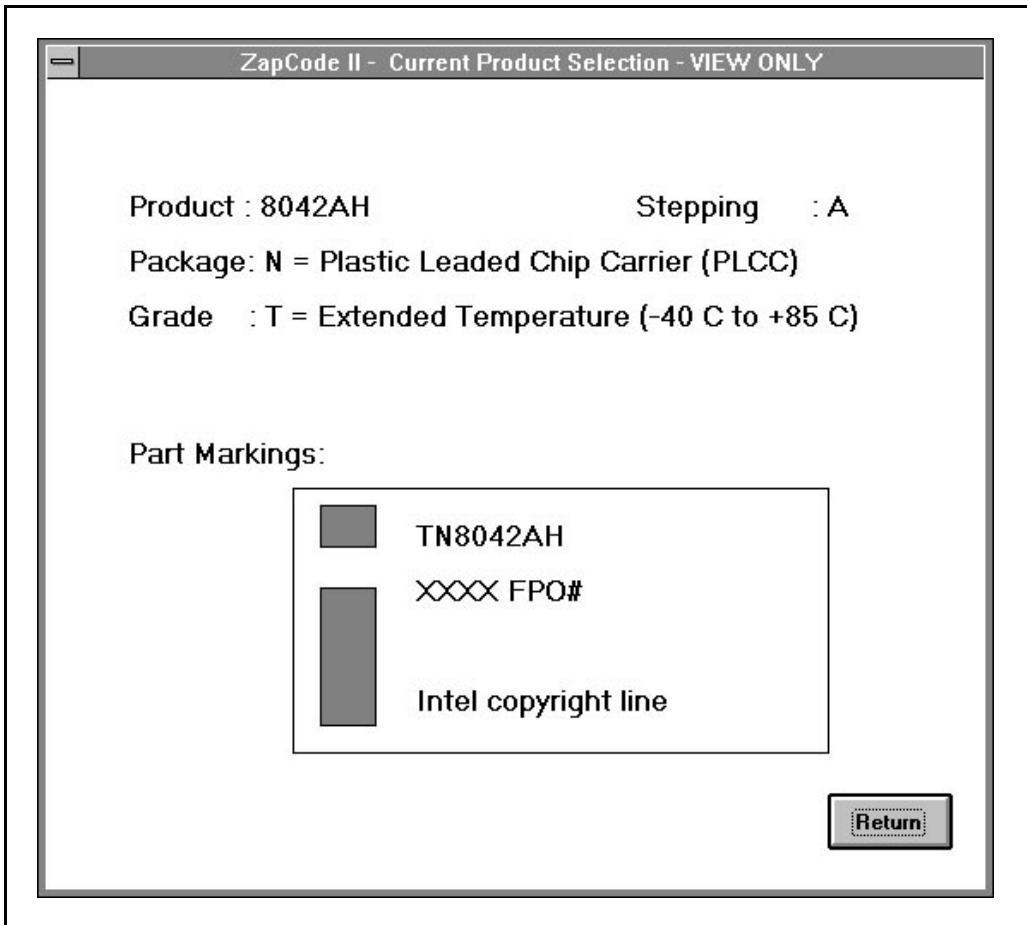

Figure 8-8. Example of a Part Marking Screen
- Click on the **View** button. The Current Product Selection screen shows the options you have selected, including the part marking. Figure 8-8 shows an example.
The **View Product Selection** screen shows the options you have selected, including the part marking. Figure 8-8 shows an example.